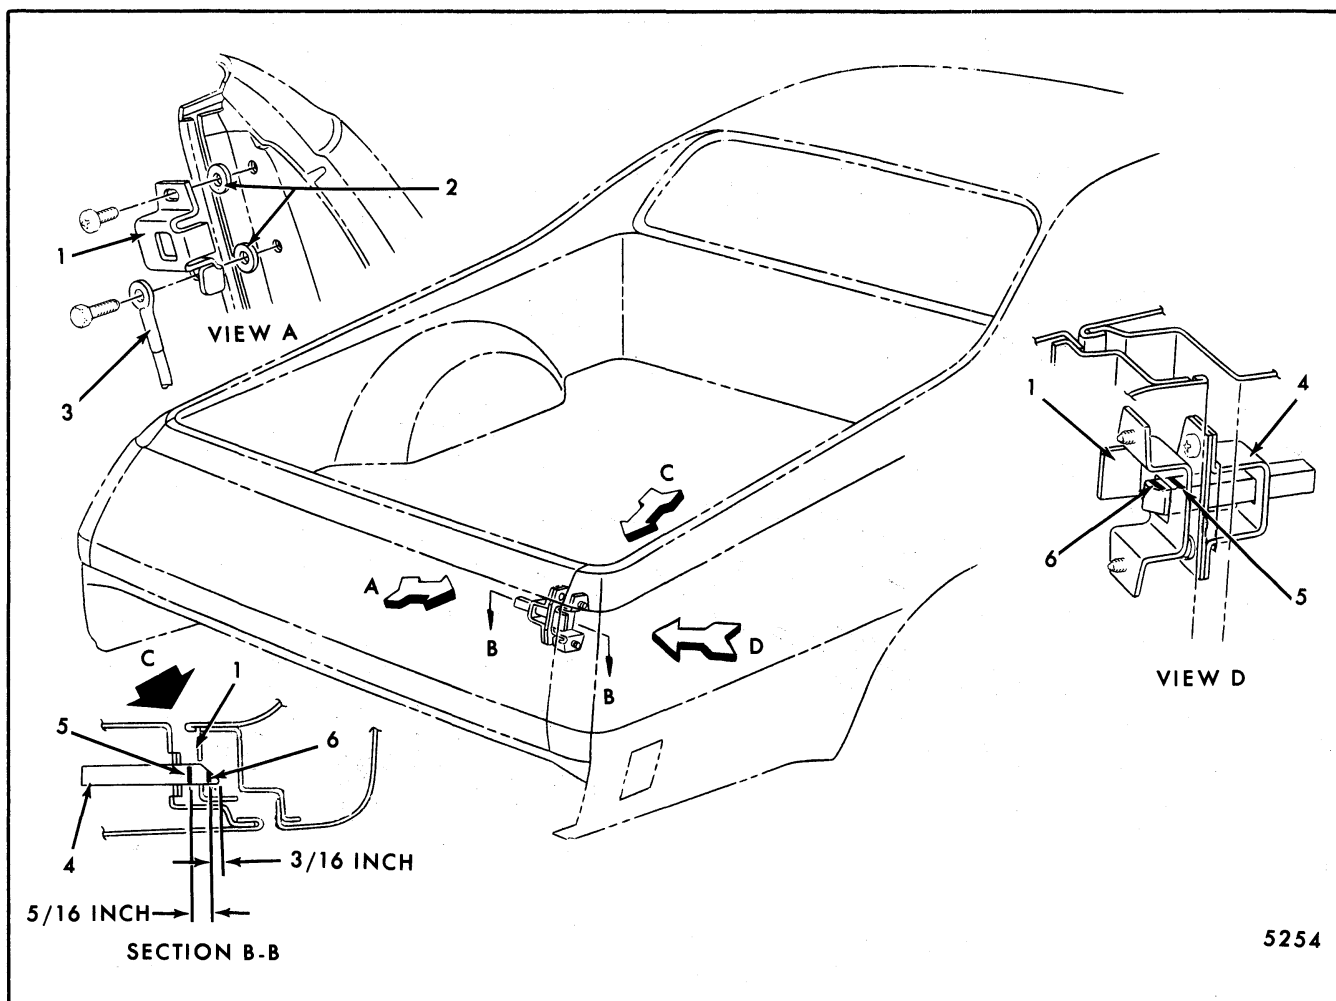

Fig. 7-110-Tailgate Latch to Striker Adjustment
2. Dimensional specifications for use of latch striker spacers are found in Figure 7-110.
- b. To determine if tailgate latch striker spacers are required, mark the latch as indicated in Section B-B, Figure 7-110 with a bright colored crayon then slam gate closed to insure full latch to striker engagement.
- c. If marks "A and B" are visible when viewed through gap between back body pillar and tailgate pillar (Arrow C, Fig. 7-110), install a spacer (1/16" thick plated flat washer - 1/2" I.D.) between striker and pillar at striker attaching bolt locations. Add additional spacers as required until only mark "B" is visible inboard of striker.